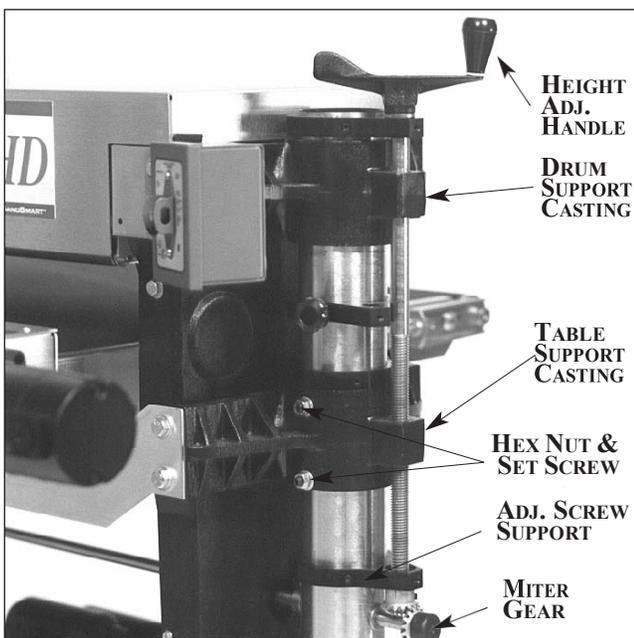

Fig. 19. Table support casting set screws.
When troubleshooting the height adjustment mechanism, first check the conveyor table for level (see page 7). Then test the height adjustment mechanism (See Fig. 19). If it does not operate
1. Loosen the set screws located at the front of the table support castings (Fig. 19).
3. If the height adjustment feels stiff, check for misalignment of adjusting screw supports and the drum support castings which could cause binding on the adjusting screw rods (Fig. 19). These castings can be adjusted by loosening the set screws which secure them to the column tubes. Realign the adjusting screw supports by loosening the two set screws that hold them to the column tubes and rotate to the proper position.
left (outboard) drum supporting casting (Fig. 19) must both be set at the proper height along the column tubes so the height adjusting screws provide for proper miter gear alignment. Before adjusting these parts, tighten one set screw in the table support castings (Fig. 19) to hold the height adjusting screw in position during adjustment.
Also check to see that the column tubes are centered inside the bore of the table support castings (Fig. 19). If not, loosen the casting bolts and tighten the set screws at the front of table support casting to center the tube. Retighten the bolts and loosen the set screws.
distance should be 1/32" or less. If there is excessive space, move the adjusting screw support to the proper distance above the miter gear and retighten. Loosen the set screws in the table support castings (Fig. 19) and test for smooth operation.